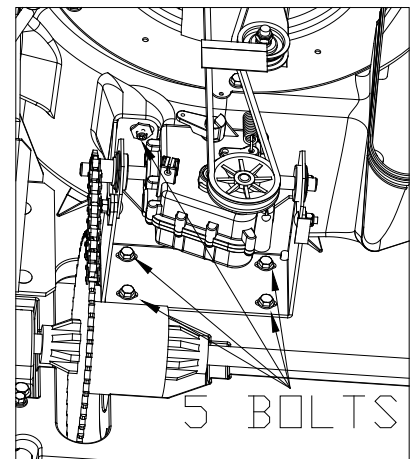

Fig. 21
11. Loosen 5 bolts securing the drive system (see Fig 21, previous page). Slide it left or right then check the alignment using straight edge. Tighten 5 bolts then repeat Step 8.